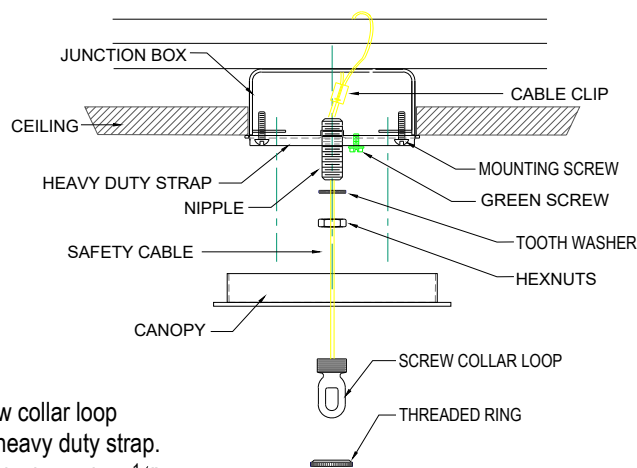

FIGURE-01
2. Remove the threaded ring from the screw collar loop. Fully thread the screw collar loop onto the nipple. Thread the hex nut onto the nipple and the nipple into the heavy duty strap. Place the canopy over the screw collar and against the ceiling. Adjust the nipple so that  $\frac{1}{4}$ " of threads on the screw collar loop extend beyond the canopy. Tighten the hex nut against the heavy duty strap. Using the threaded ring, install the canopy. (See Figure -01)